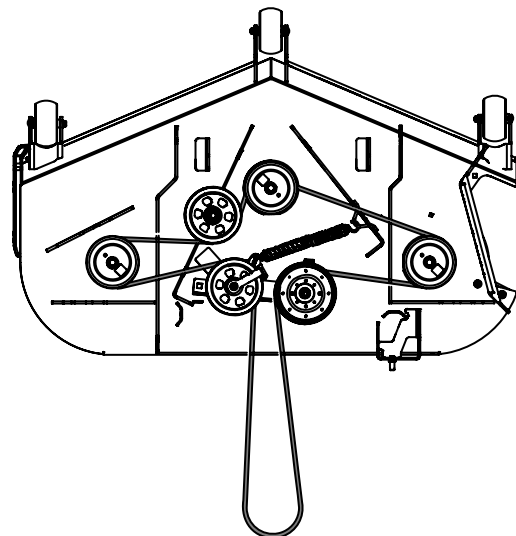

Figure 56
- Route the belt as shown in Figure 56. Tighten and secure the idler arm hardware.